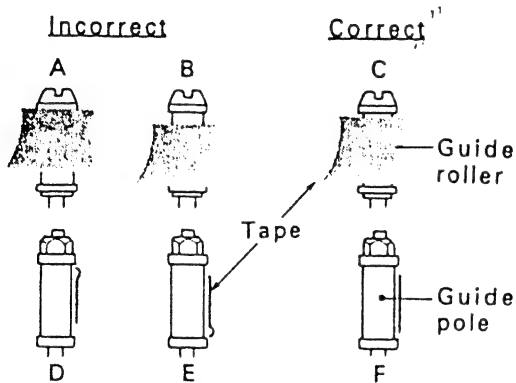
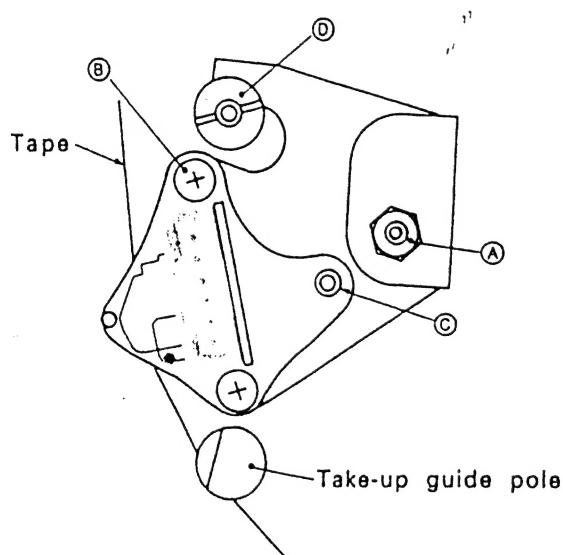

Fig.10 Guide roller and guide pole
Fig.14 Take-up guide pole
- During loading, play and unloading, observe the tape at the supply guide rollers and poles, and takeup guide rollers. Confirm absence of curling, wrinkling, etc., as shown in Fig.10.
- Turn Audio/CTL Head screw © as shown in Fig.14 and adjust for smooth transport at the take-up guide pole as shown by F of Fig.10.